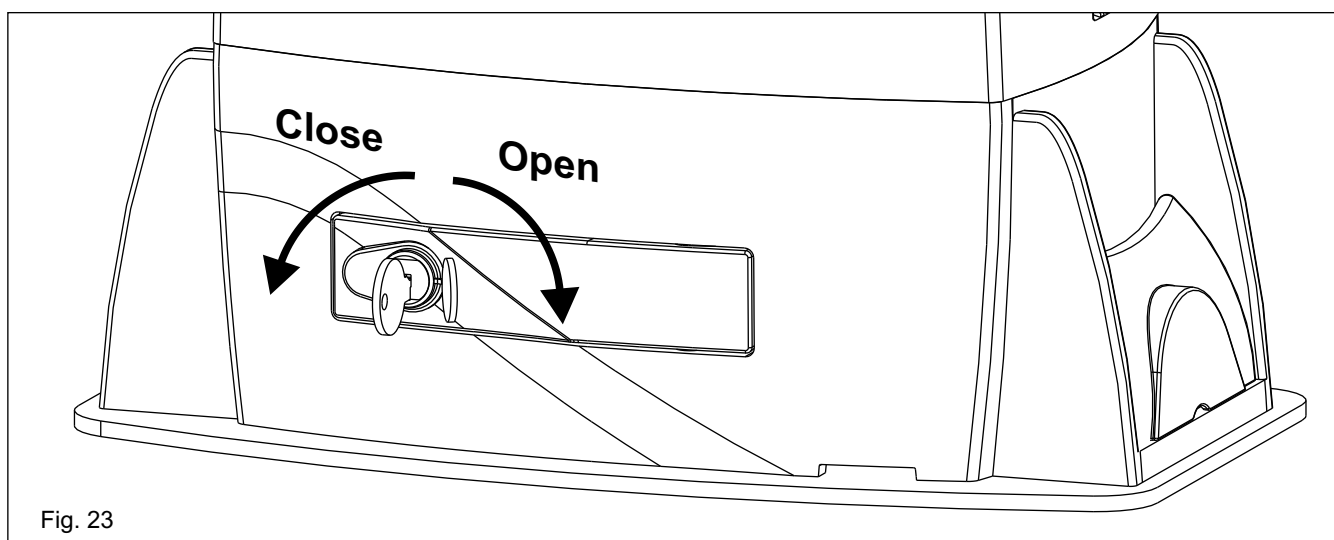

Fig. 23
- Open the lock cover, insert the key and rotate it 90° clockwise (Fig. 23).